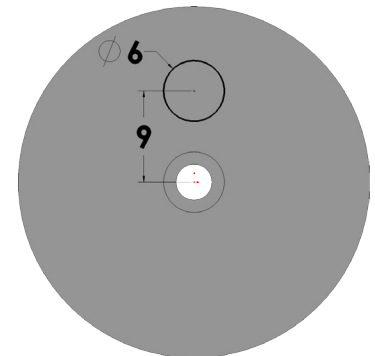

Fig. 15
Step 6. Click **Smart Dimension**  (S) on the Sketch toolbar.
Step 7. Add dimensions, **Fig. 15**.